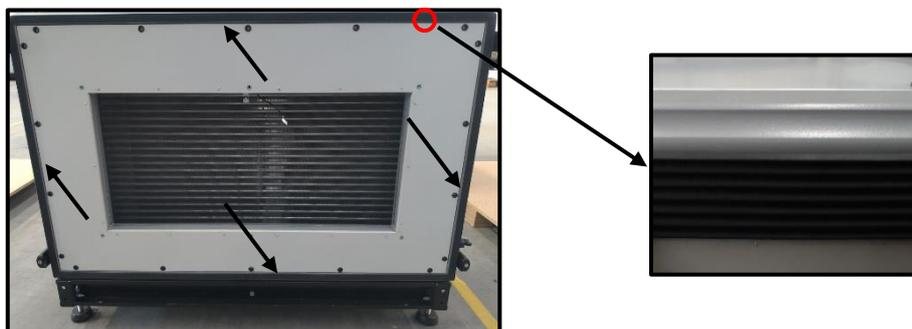

Fig. 108
1. Apply sealing strip to the surface where the module will be connected with the device (Fig. 108)